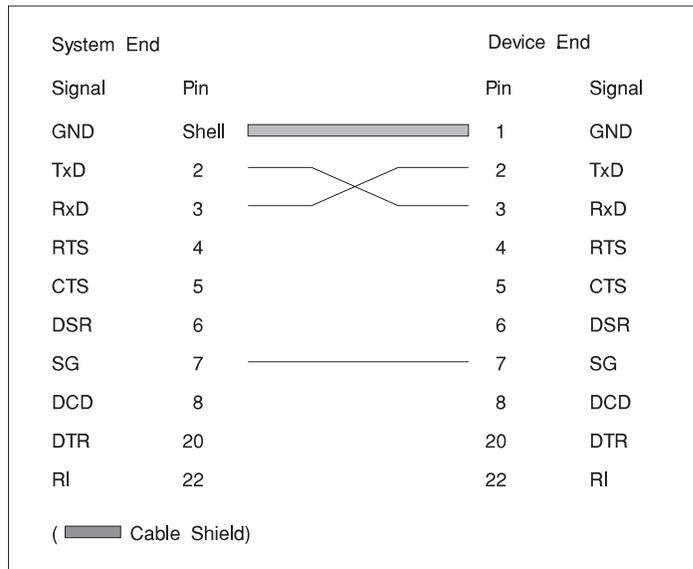

Figure B-1. Simple Terminal/Printer Cable for EIA-232E Applications
In most cases, serial terminals and printers need only a three-signal connection to either 8-Port Asynchronous ISA Adapter. For device drivers that support XON/XOFF (software) handshaking, the only required signal lines are transmitted data (TxD), received data (RxD), and signal ground (SG). Cables must be shielded to remain in compliance with FCC certification requirements, and the shield must be connected to chassis ground (GND) at both ends of the cable run. It can be used for a null modem cable (for example, transmitted data on one end of the cable is connected to received data at the other end, and vice versa). A cable of this type is shown in Figure B-1 for EIA-232E applications.